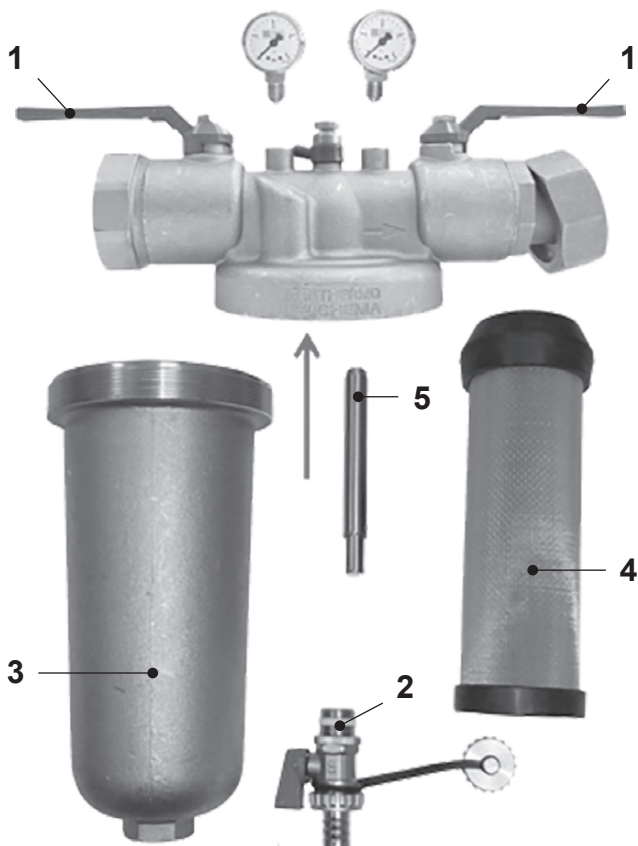

Fig. 18
1. Shut off the protective filter using shut-off valves (1, Fig. 18) (or shut-off valves provided by the customer).
2. Drain residual water from the filter through the drain valve (2).
3. Carefully unscrew the filter cup (3) and filter cartridge (4)
5. Clean the magnetic rod (5) with a dry cloth to remove any impurities.